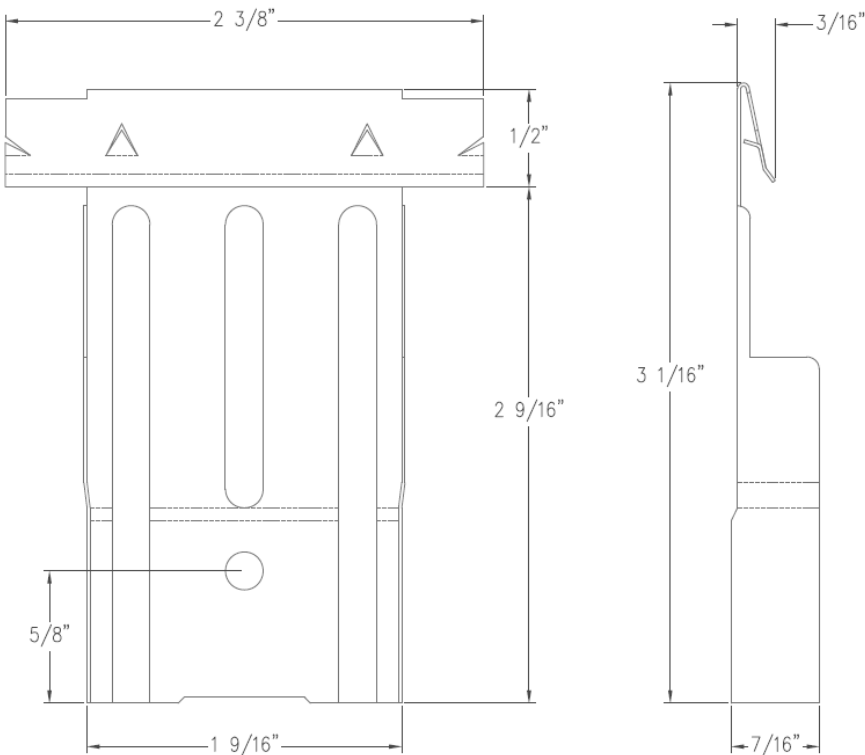

FIGURE 5—INTERLOCKING PANEL CLIP
3.5.2.1 Panel Clip – Panel clips are provided with the VM ZINC® Interlocking metal exterior panel for attaching the panel to the structure. The clips must be stainless steel (ASTM A240 – Type 316), minimum 0.02 inch (0.5 mm) thick, $2\frac{3}{8}$ -inch wide (60 mm) and 3 inches long (76 mm). See Figure 5.